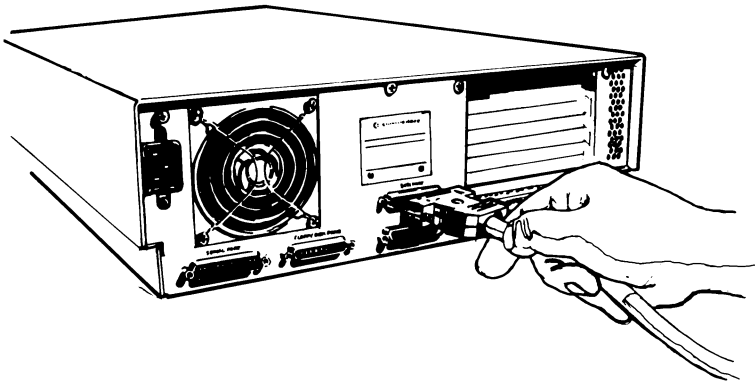

Figure 1
- 2) Connect the tape drive's SCSI Cable to the SCSI port in the rear of the Amiga 3000 (Figure 1).*